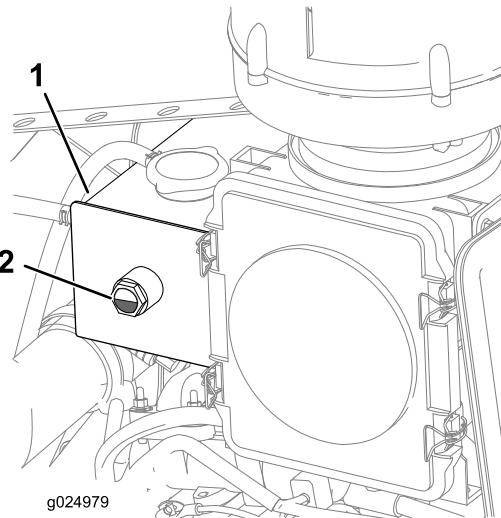

Figure 26
- Check the coolant level in the reservoir (Figure 26).
Note: Ensure that the coolant level is between 1/4 and 3/4 of the way up in the sight glass (Figure 26).